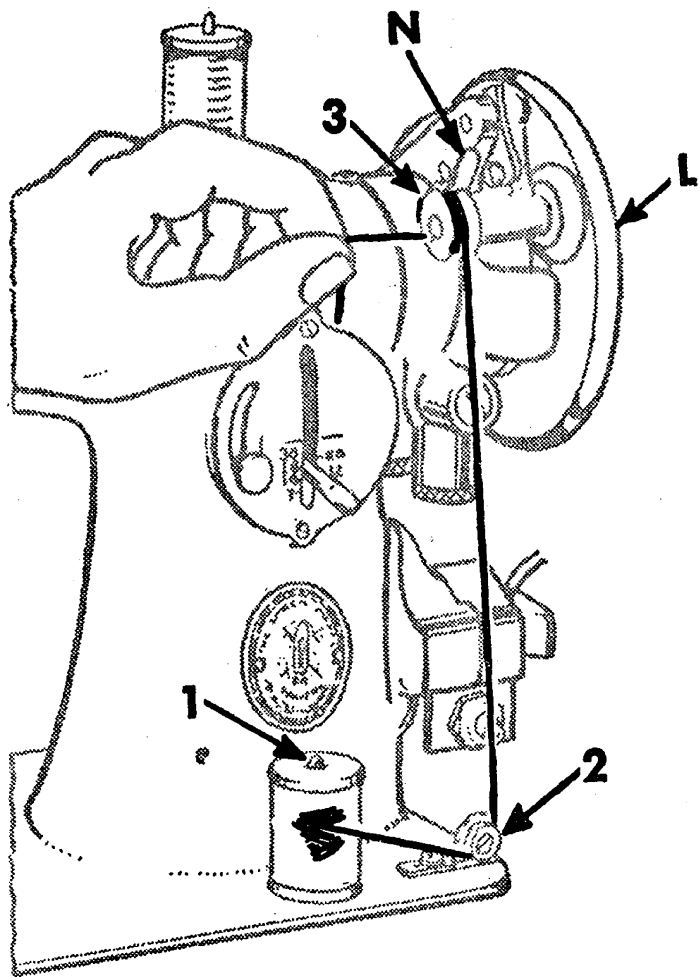

Fig. 11. Winding the Bobbin
See Fig. 11
2. Lock bobbin in place by pressing bobbin winder down until latch N, Fig. 11 engages.
5. Hold end of thread as shown in Fig. 11 and press controller as for sewing. Continue to hold end of thread until it breaks off.
If pressure of bobbin winder pulley against hub of hand wheel is insufficient for winding the bobbin, press down bobbin winder until latch **N**, **Figs. 11** and **12** drops and holds it in position.
screw **O**. If thread does not wind evenly on bobbin, loosen screw which holds tension bracket **2**, Fig. 11 in position.